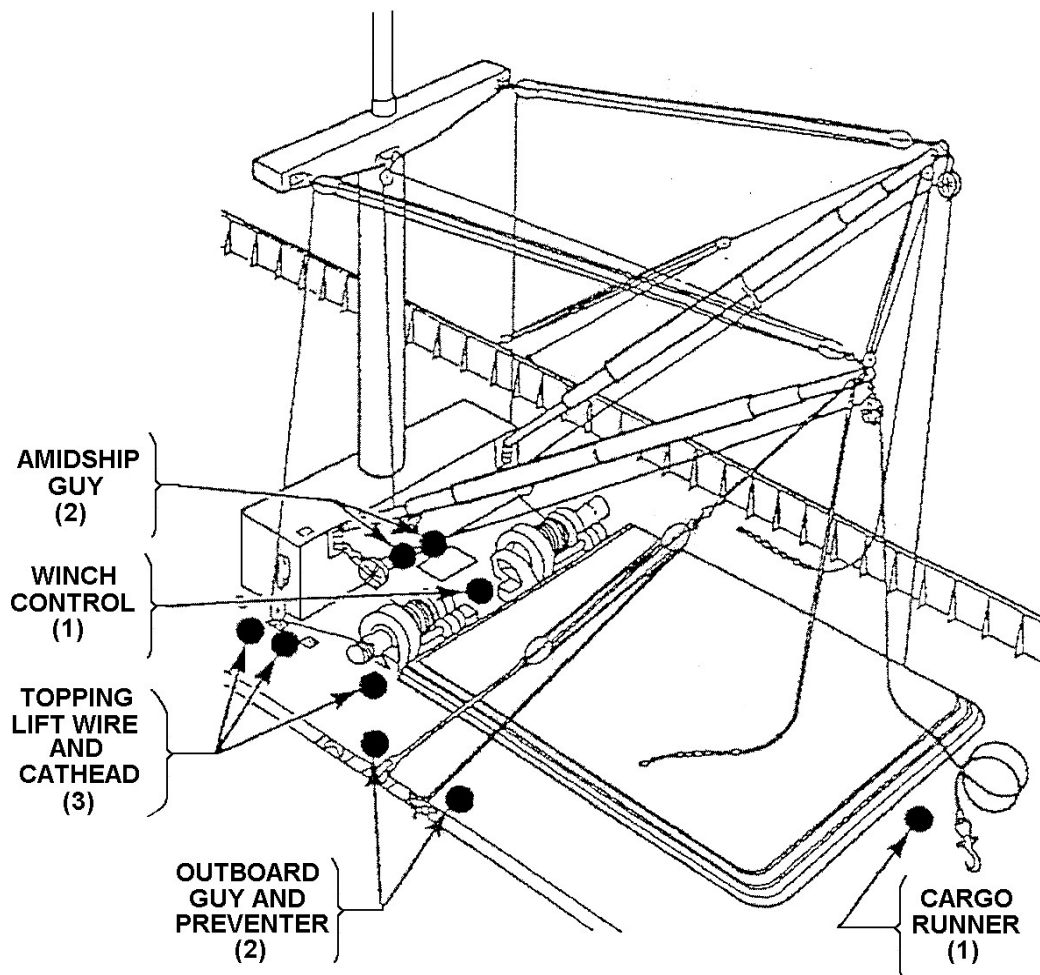

Figure 3-33
17. Execute the procedures required to lower standard booms equipped with multiple-topping lift (see Figure 3-33).